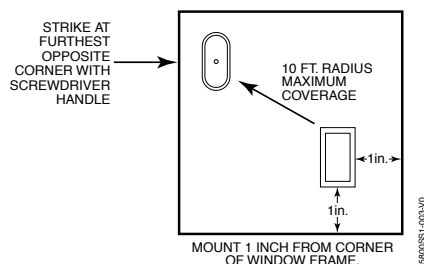

Figure 2
1. Determine the optimum mounting location. For best sensitivity, the sensor should be mounted one-inch from the corner edge of the window frame (see Figure 2).